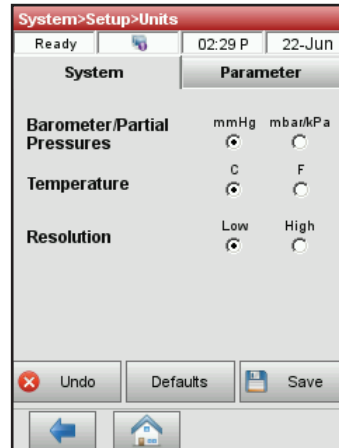

Figure 24. System Manager> Setup> Units screen
- On the Units screen, select the desired unit of measurement (figure 24).